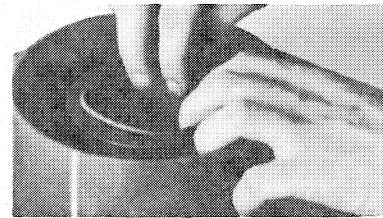

Fig. 9
1. Insert the four new O-ring seals in flange O-ring grooves, along with old back-up rings. The back-up rings always go to the outside of the O-ring. See Figure 9.